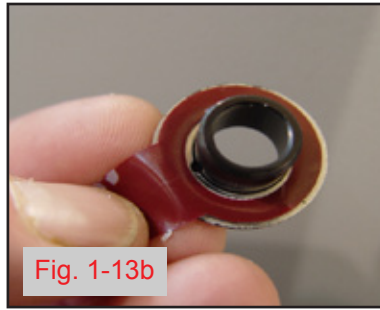

Fig. 1-13b
- d. Using the pull-tab, remove the tape liner from the back of the switch plate. (Fig. 1-13b)